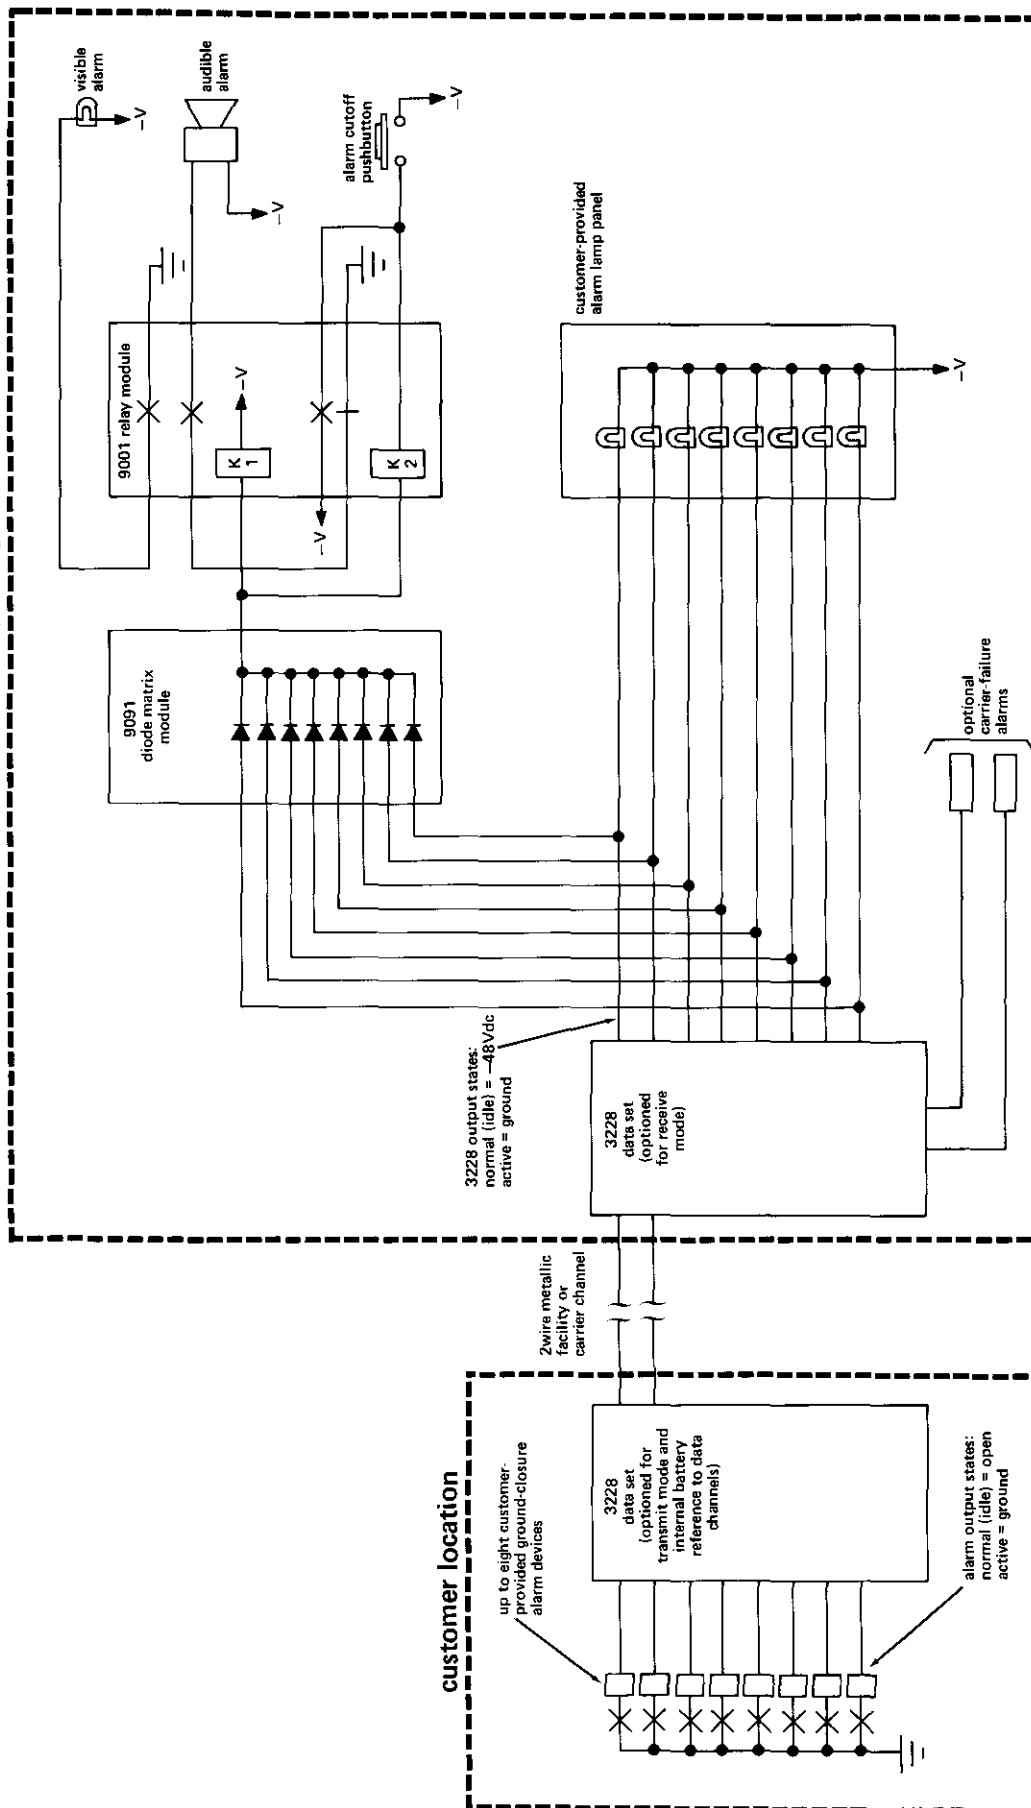

figure 6. Use of 3228 with ground-closure alarm devices
2.06 In applications involving customer-location alarm devices that provide open outputs when idle and ground outputs (via ground-closure relay contacts) when activated, the 3228 module can interface the alarm devices directly, as shown in figure 6. Please note that in such ground-closure applications, the 3228 optioned for transmit (to whose inputs the alarm devices are connected) must also be switch-optioned for internal battery reference to its input data channels. By adding a Tellabs 9091 Diode Matrix module and an associated Tellabs 9001 Relay Module as shown, the outputs of the 3228 module optioned for receive can be logic-ORed to provide audible and visible alarm indications, as well as cutoff for the audible alarm, at a remote alarm-reporting site.